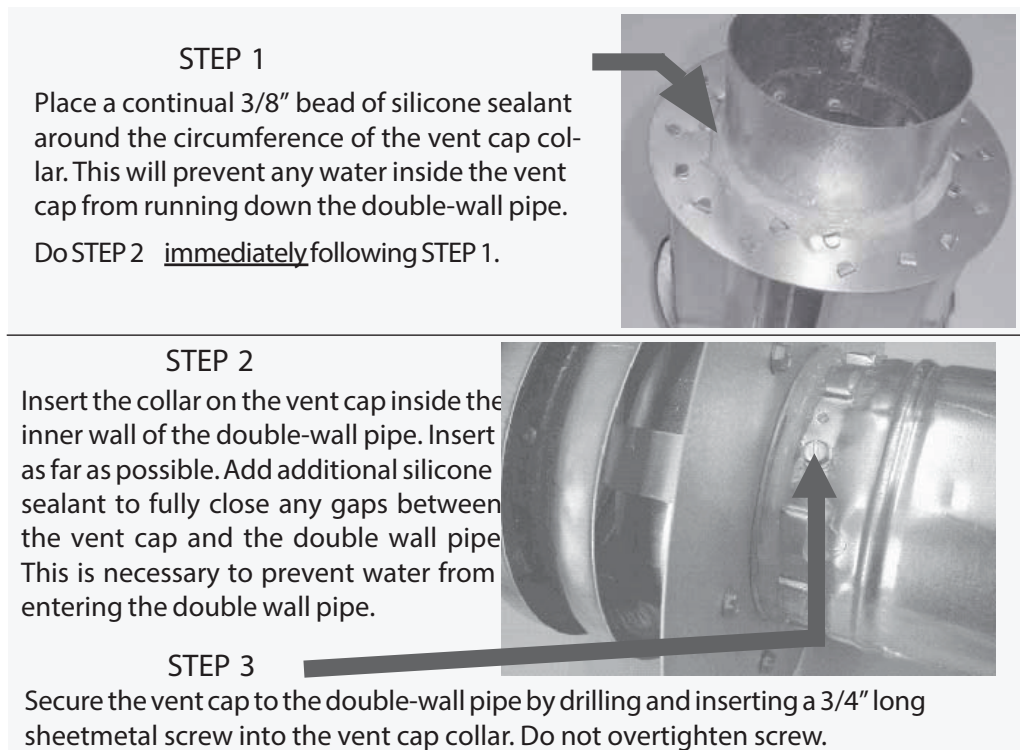

Figure 11. Joining Double-Wall (Type B) Pipe to Vent Terminal Cap (Horizontal or Vertical)
- **To seal the joint between the terminal section of double-wall vent pipe and the vent cap:** Follow the illustrated step-by-step instructions in Figure 11.